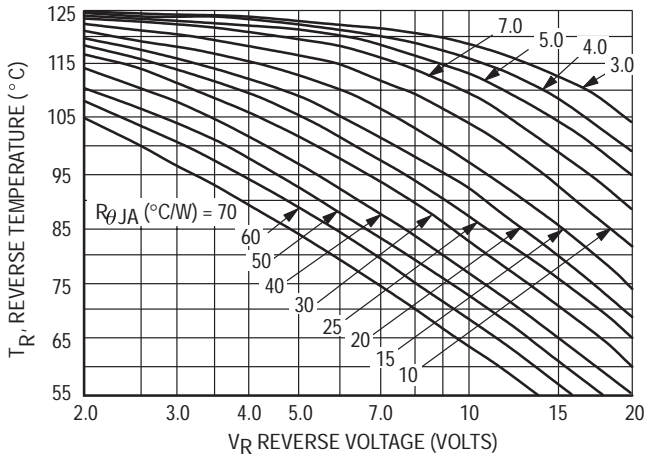

Figure 1. Maximum Reference Temperature – 1N5823
Figures 1, 2, and 3 permit easier use of equation (1) by taking reverse power dissipation and thermal runaway into consideration. The figures solve for a reference temperature as determined by equation (2):
Inspection of equations (2) and (3) reveals that T_R is the ambient temperature at which thermal runaway occurs or where T_J = 125°C, when forward power is zero. The transition from one boundary condition to the other is evident on the curves of Figures 1, 2, and 3 as a
difference in the rate of change of the slope in the vicinity of 115°C. The data of Figures 1, 2, and 3 is based upon dc conditions. For use in common rectifier circuits, Table 1 indicates suggested factors for an equivalent dc voltage to use for conservative design, i.e.: